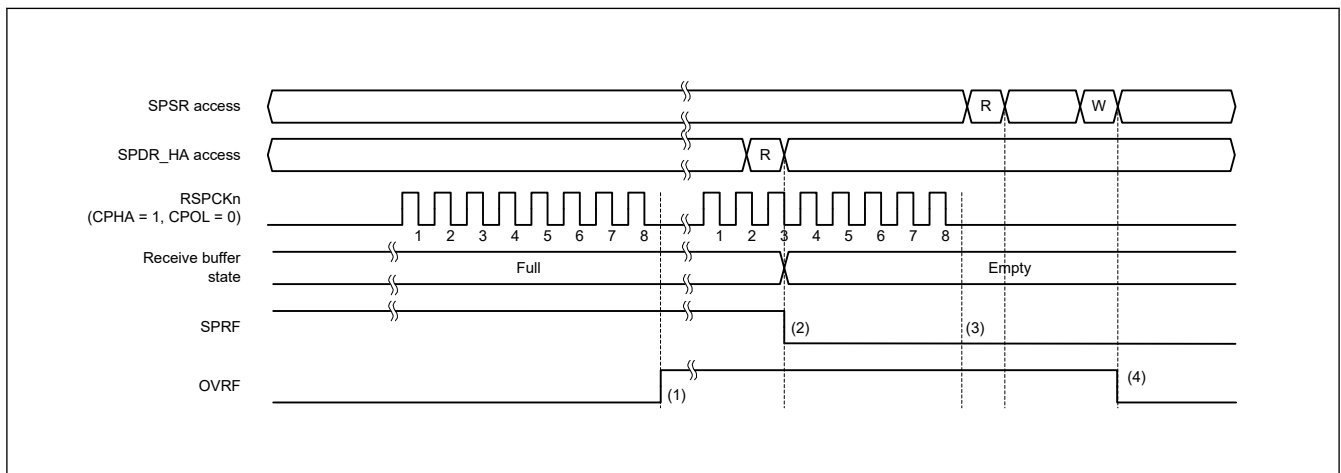

Figure 26.26 Operation example of the OVRF and SPRF flags
Figure 26.26 shows an example of operation of the OVRF and SPRF flags. The SPSR and SPDR_HA accesses shown in Figure 26.26 indicate the condition of accesses to the SPSR and SPDR_HA register, where W denotes a write cycle, and R a read cycle. In this example, the SPI performs an 8-bit serial transfer when SPCMD0.CPHA bit is 1 and the SPCMD0.CPOL bit is 0. The numbers given for RSPCKn in the waveform represent the number of RSPCK cycles, such as the number of transferred bits.
The operation of the flags at timings (1) to (4) in Figure 26.26 is as follows: